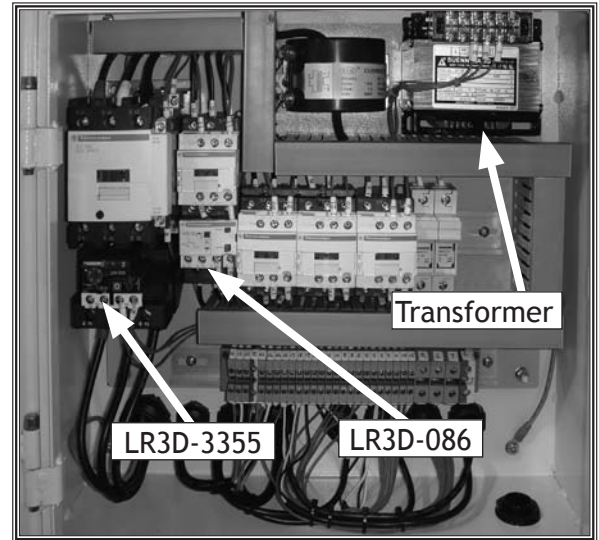
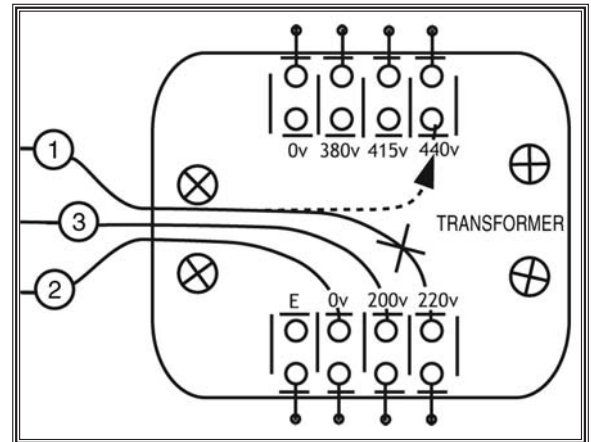

Figure 6. Overload relay and transformer location.
Figure 7. Transformer 220V to 440V connection.
3. Remove the wire labeled "1" at the 220V terminal of the control power transformer (Figure 6) and connect it to the 440V terminal (Figure 7).
4. Remove the LR3D-3355 overload relay (Figure 6), and replace it with an LR3D-3322 (X1738003-1) type, with the dial set to 18A.
5. Remove the LR3D-086 overload relay (Figure 6), and replace it with an LR3D-076 (X1738011-1) type, with the dial set to 1.7A.